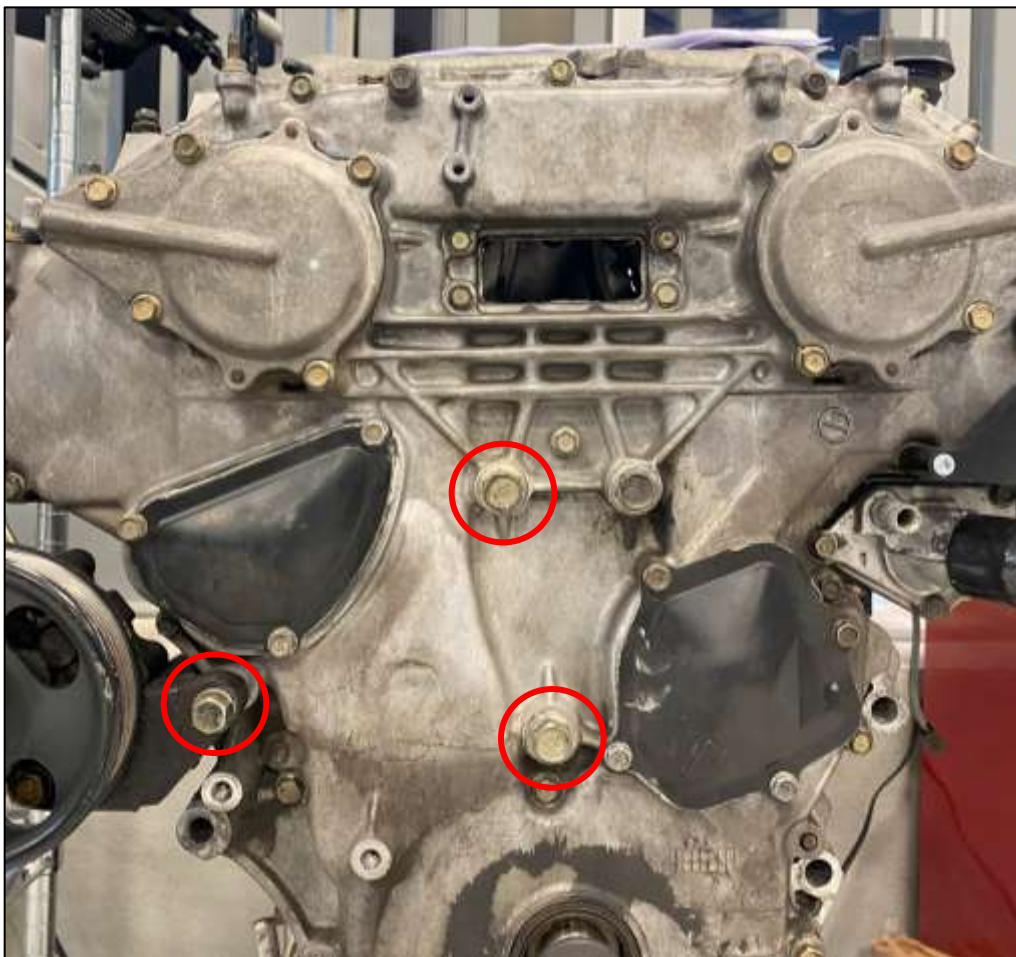

Figure 39
4. Remove the (3) three bolts that secure the Idler Pulley Bracket to the vehicle and remove the Bracket from the vehicle. If you do not have the Idler Pulley, there will be a Spacer behind the other Pulley Bracket, remove it from the vehicle. Retain all hardware. *Figure 39.*